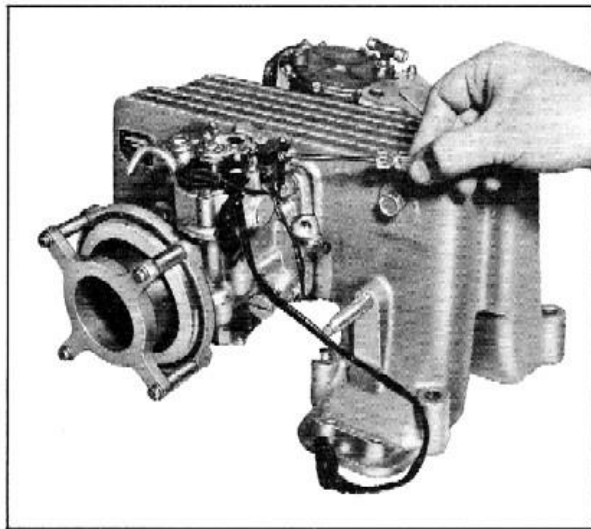

Fig. 10 Disconnecting Starting Cut-Off Switch
1. Disconnect lead from solenoid at starting cut-off switch, Fig. 10.